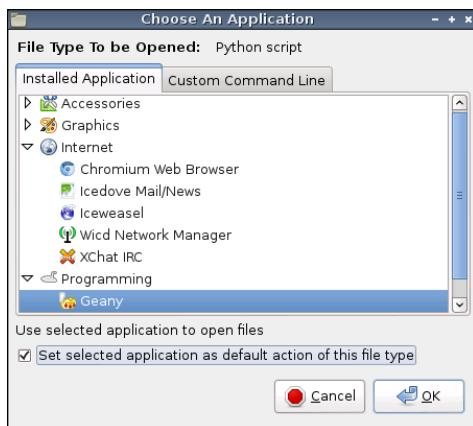

Figure 12-16:
- The Choose an Application dialog box opens, enabling you to choose the application you want to use to open the file (see Figure 12-16).
In Figure 12-16, the default application for opening Python scripts is set to be Geany. Geany is a helpful yet simple integrated development environment (IDE) for programming. Unlike Leafpad, but like Cloud9, it highlights different parts of code in different colors and provides several